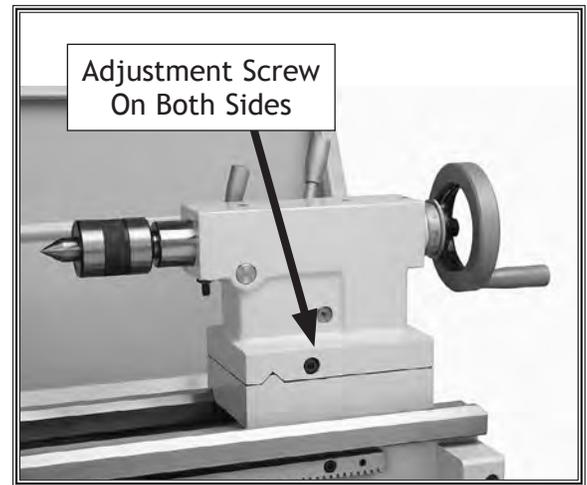

Figure 20. Tailstock left adjustment location.
8. Loosen the tailstock lock lever and adjust the tailstock offset by half the taper by turning the adjustment set screw (**Figure 20**). Turn another 0.010" off of the stock and check for taper. Repeat as necessary until the desired amount of accuracy is achieved.